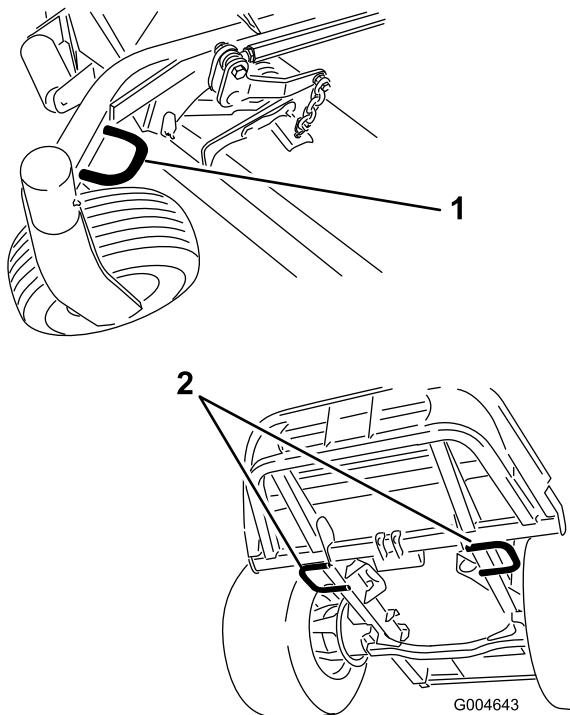

Figure 35
- Securely fasten the machine to the trailer or truck with straps, chains, cable, or ropes as required by local traffic regulations in your area (Figure 35).